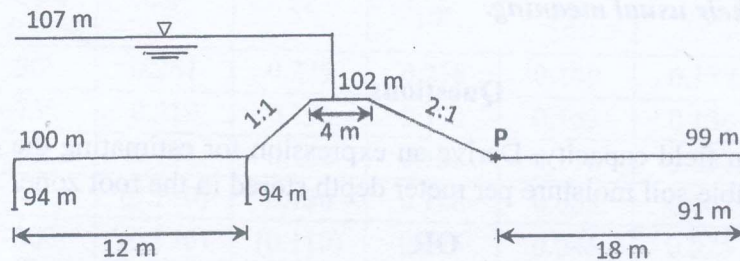

Figure 1
- 3 (b) Figure 1 gives the cross-sectional view of a weir. Determine the residual pressures at the key points. Draw the sub soil hydraulic gradient line and determine the thickness of floor at point P. Use Khosla's curves for pressure calculations. [8] CO3